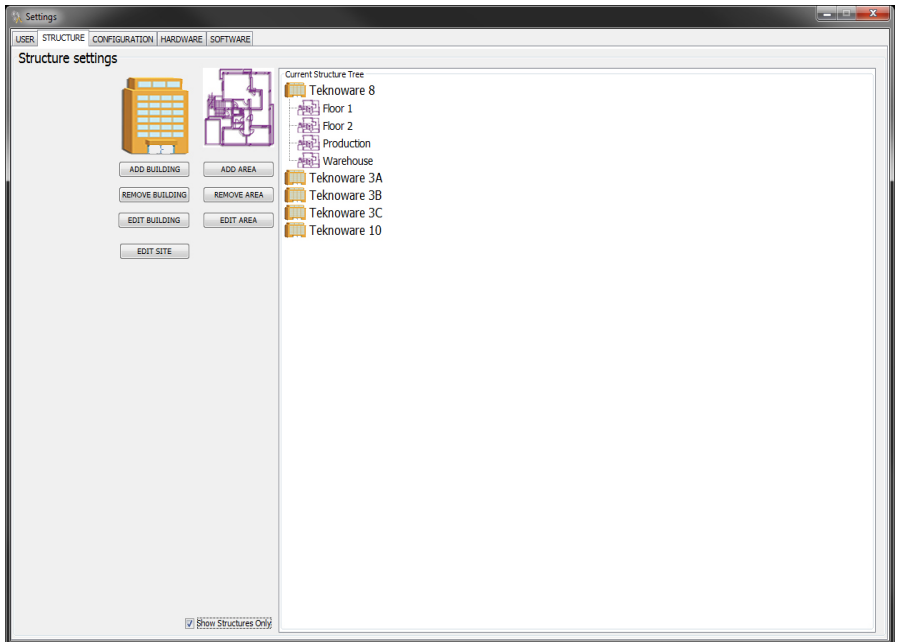
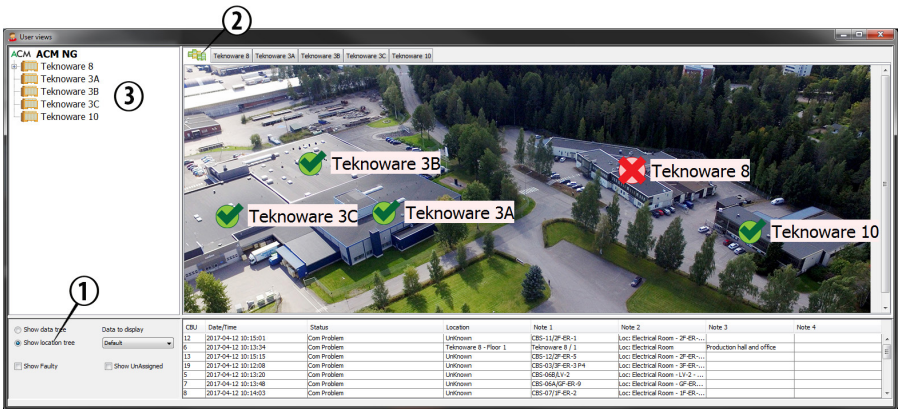

Figure 7. SETTINGS window, STRUCTURE tab
Figure 8. USER VIEWS – Setting up categories – Buildings
7. In the Figure 7 there is an example of the Teknoware factory in Lahti, Finland, divided into simple categories. The entire Site is divided into 5 buildings. The Teknoware 8 building, which is clicked open in the image, is divided into 4 Areas: 2 floors of the main building, and 2 sections of the production hall (production, warehouse). See the next chapter to learn, how these categories can be set for easy access to any CBU or luminaire in the User View.
2. Start by checking the “Show location tree” (No. 1 in the Figure 7). Make sure you are on the Site-level of the categories (No. 2 in the Figure 8).
3. The Site image is displayed on the main display. To set the Buildings in the Site, right click a Building name on list in the left side of the window (No. 3 in the Figure 8), and choose Add on Map. Then, left click the Site image on the spot you wish to add the Building icon to. In the Figure 8, there is an aerial view of the Teknoware factory site, to which all the Buildings are set accordingly to their physical location.